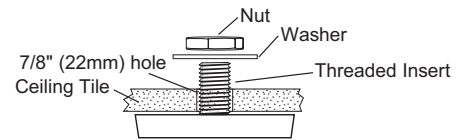

Figure 2A
2. Install the provided screws – leaving approximately 3mm (1/8") space from the bottom of the screw head to the ceiling (see Figures 2A and 2B).